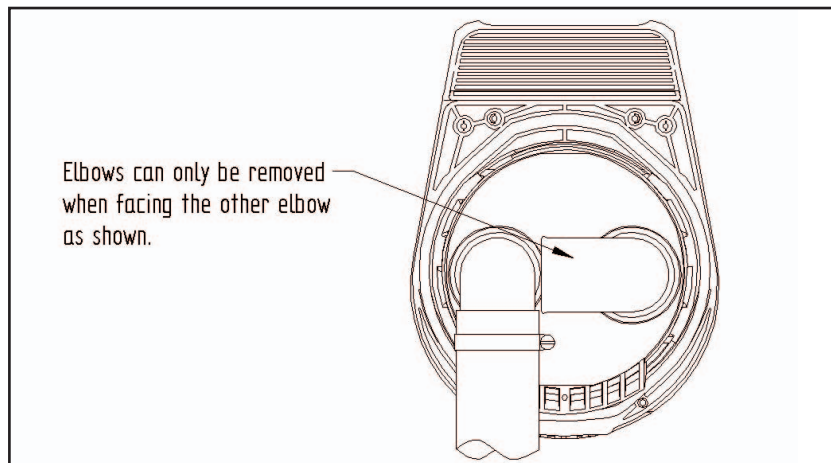

Fig.7 Disconnection Position of Elbows
3. The elbows can be removed and hoses attached prior to installation by turning the elbows to a point where the outlet/inlet elbow directly faces the other elbow and then pulling out. See fig. 7 (below).
3. Remove elbows from ports (see Fig.7).